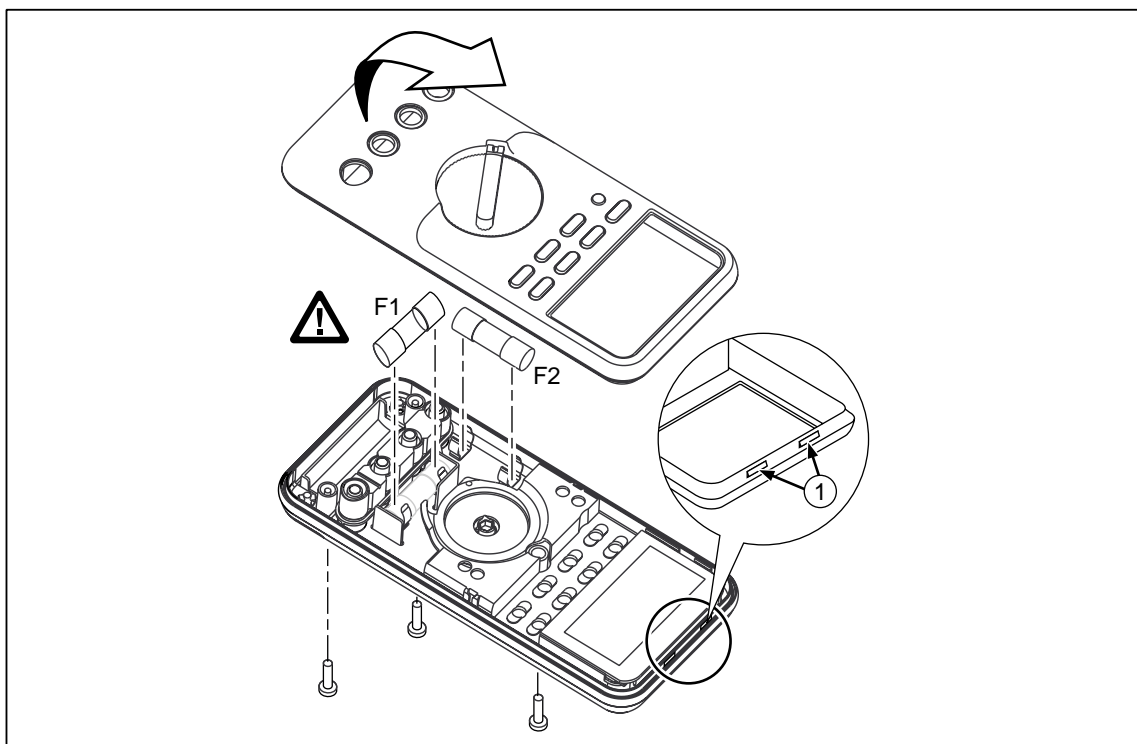

Figure 2. Replacing a Fuse
To replace a fuse, refer to Figure 2 and do the following:
8. Place the case top on the case bottom, ensuring that the gasket is properly seated and the case halves snap together above the LCD end. (See Figure 2.)